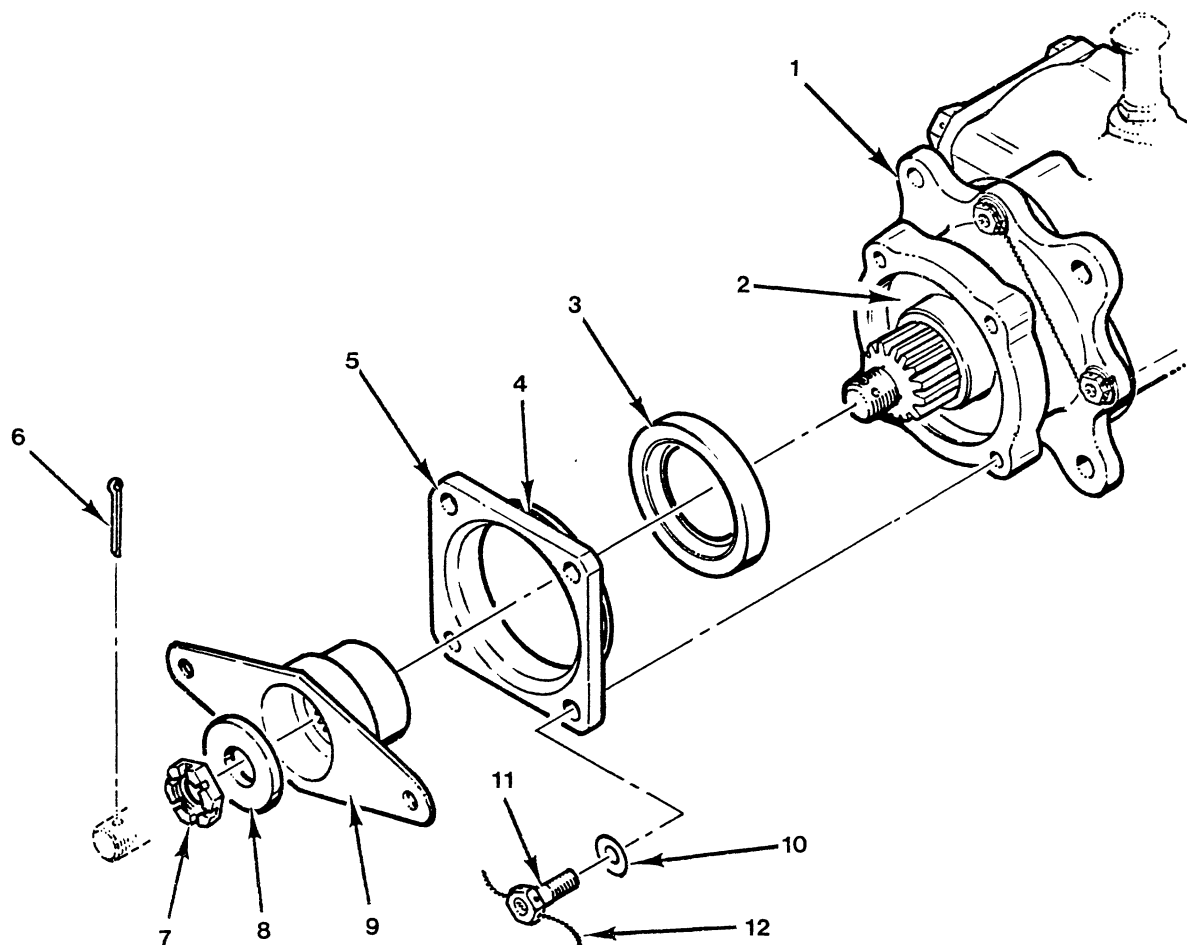

FIGURE 7-13A TAIL ROTOR GEARBOX INPUT SHAFT SEAL REPLACEMENT
7.450 Tail Rotor Gearbox Input Shaft Seal Replacement (Ref Figure 7-13A)**NOTE**